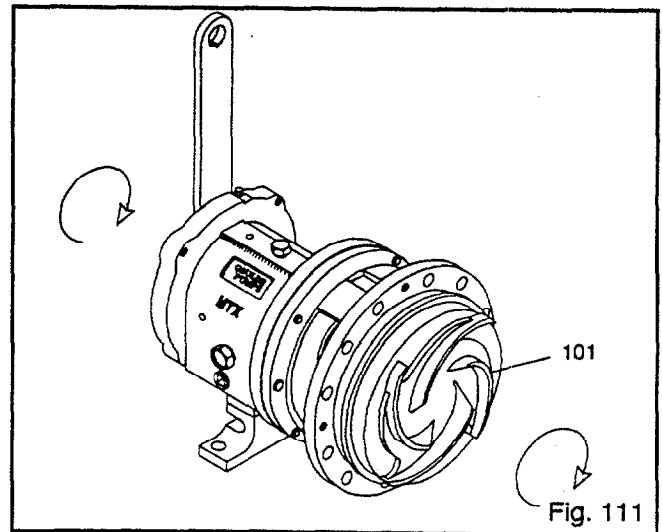

Fig. 111
5. Put shaft wrench and coupling key on shaft. When impeller (101) makes firm contact with sleeve (126), raise shaft wrench (counterclockwise, viewed from impeller end of shaft) off bench and slam it down (clockwise, viewed from impeller end of shaft). A few sharp raps will tighten impeller (101) properly (Fig. 111).